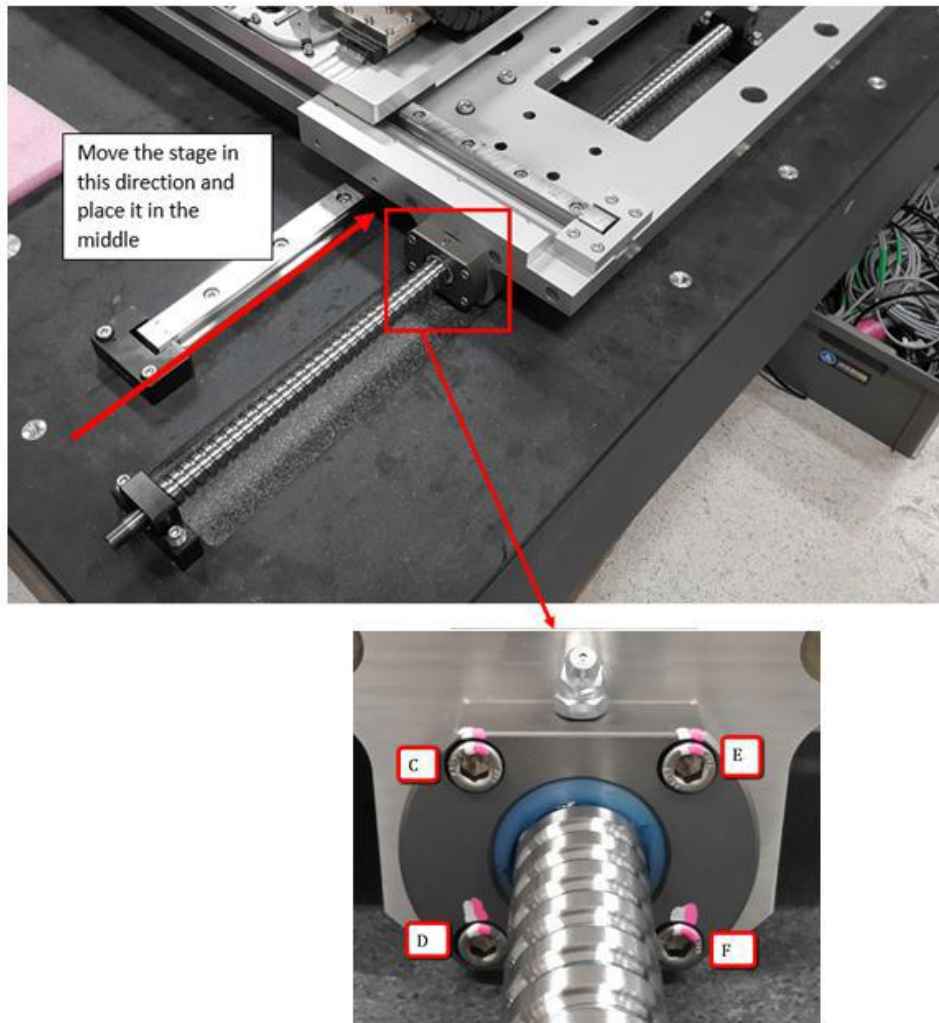

Figure 42 Y axis middle ball nut
46. Push the stage to the middle as shown in the Figure 42. Tighten the screw “C” to “F”.